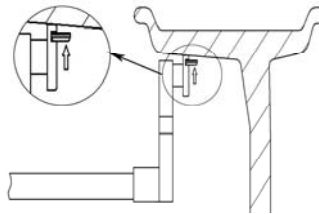

Figure10-4
- 10.4.5 Press [T], enter the tracking sticking function. Clipping the inside sticking weights with glue side up on the measuring ruler head, rotating the wheel, when inside counterweight position indicator light all on, and show "OK", pull out the measuring scale until the inside tracking sticking indicator light all on, spin the measuring scale and stick the weights on the rim. Figure 10-4
- 10.4.6 Clipping the outside sticking weights with glue side up on the measuring ruler head, rotating the wheel, when outside counterweight position indicator light all on, and show "OK", pull out the measuring until the outside tracking sticking indicator light all on, spin the measuring scale and stick the weights on the rim. Figure 10-4
- 10.5.5 Press [T], enter the tracking sticking function. Clipping the outside sticking weights with glue side up on the measuring ruler head, rotating the wheel, when outside counterweight position indicator light all on, and show "OK", pull out the measuring scale until the outside tracking sticking indicator light all on, spin the measuring scale and stick the weights on the rim. Figure 10-4
- 10.6.5 Press [T], enter the tracking sticking function. Clipping the sticking weights with glue side up on the measuring ruler head, rotating the wheel, when counterweight position indicator light all on, and show "OK", pull out the measuring scale until the tracking sticking indicator light all on, spin the measuring scale and stick the weights on the rim. Figure 10-4